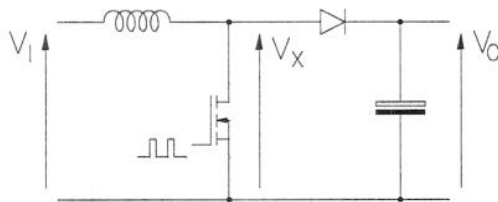

Figure Q2
2. A boost switch-mode power supply, SMPS, as shown in figure Q2, has the following design properties.